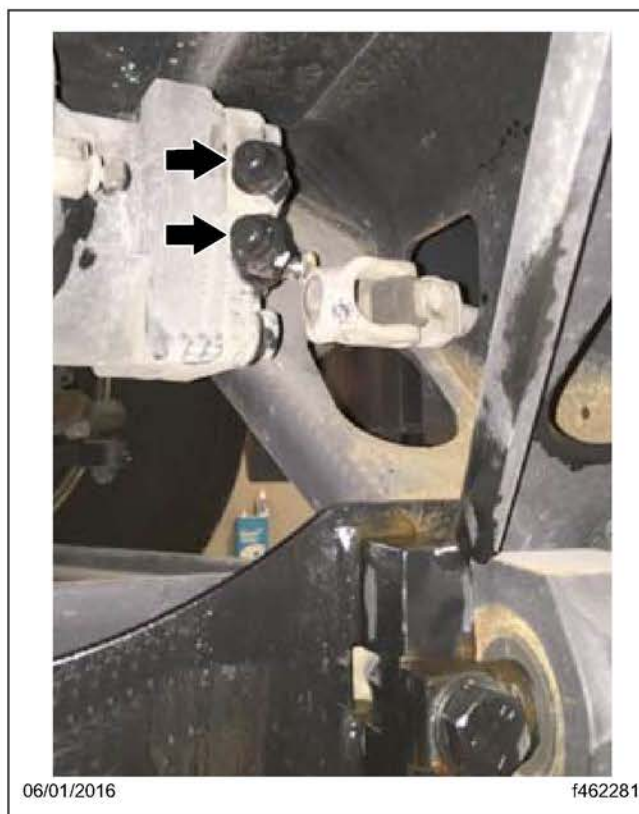

Fig. 6, Hydraulic Hose Connections Capped
- 4.1 Plug the connectors on the hoses and steering gear with caps to prevent fluid from bleeding out. See Fig. 6. If caps are not available, drain the system according to shop practice.